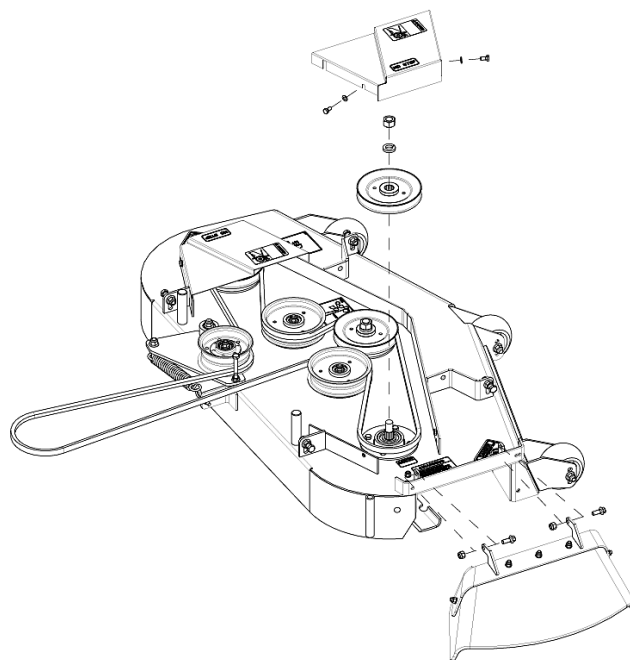

FIG 1
- Remove the side discharge chute, bushing, and belt cover (FIG 1) from the mower deck. **Note:** Keep the unused parts in a bag for later use.